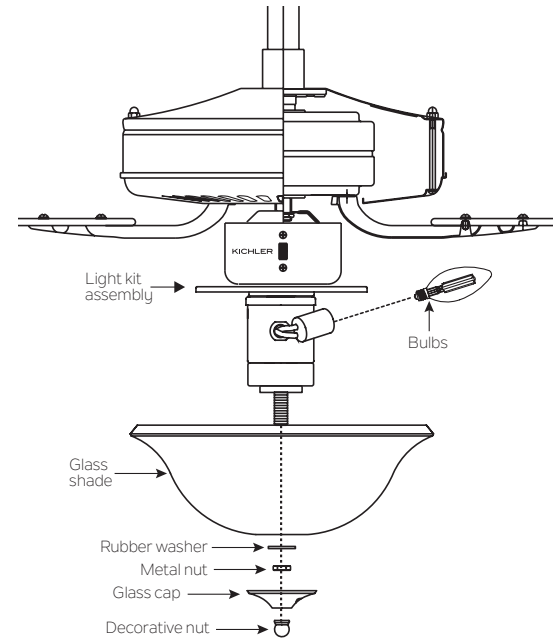

Fig. 3
1. Install 3, 4 watt LED bulbs (included). (Fig. 3)
2. Remove the decorative nut, glass cap, metal nut and rubber washer from the light kit. Place glass shade over the light kit stem, secure with the rubber washer, metal nut, glass cap and decorative nut. Do not overtighten. (Fig. 3)
3. Insert the 2 pull chain through the eyelet in the shade and cap. (Fig. 3)